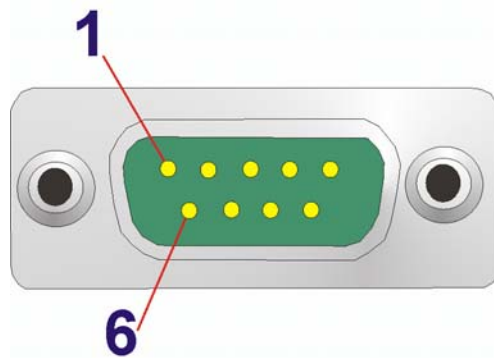

Figure 4-22: COM1 Pinout Locations
- CN Pinouts:** See **Table 4-22** and **Figure 4-22**